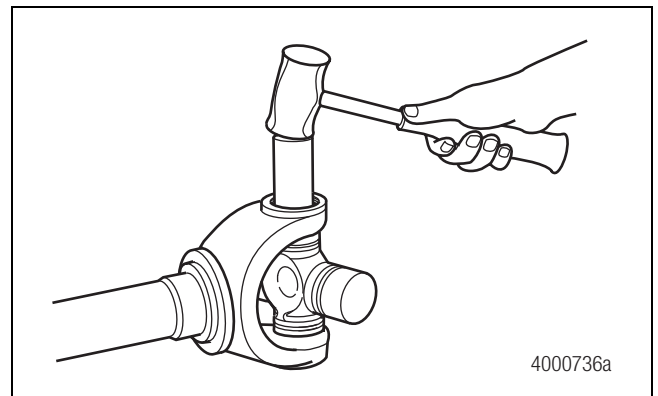

Figure 4.13
2. If necessary, use a brass drift and lightly tap the center of the bushing to assist in snap ring removal. Figure 4.13.